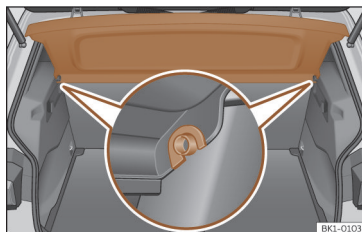

Fig. 162 In the boot: removing and installing the shelf.
- Remove the rear shelf from the side supports >>> **Fig. 162** by pulling it upwards and then take it out.
- Insert the cover horizontally so that the "recess" fits onto the axis of the supports >>> **Fig. 162** and press down until it engages.